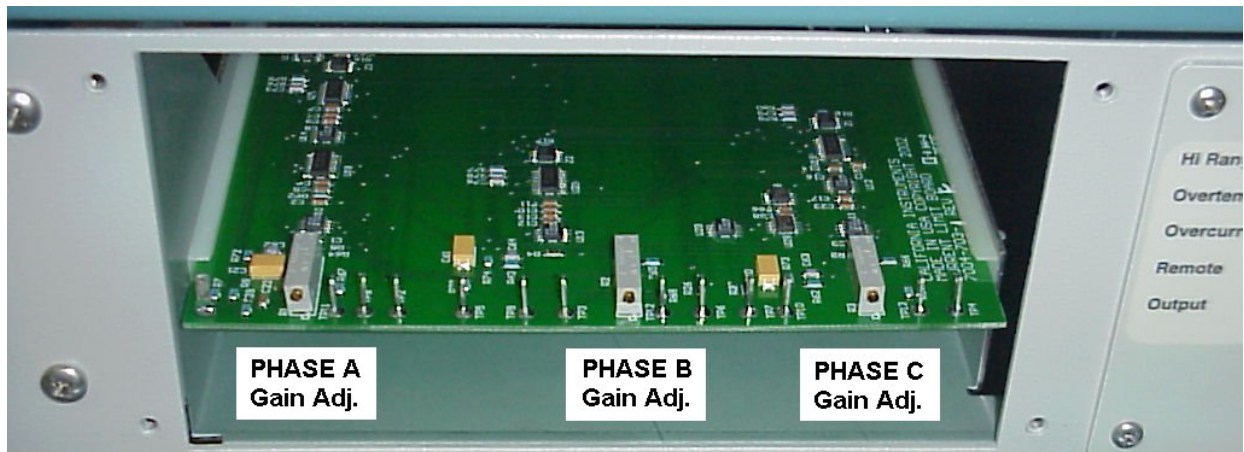

Figure 6-3: Location of Gain pot adjustments and TP1 through TP4
2. Remove the four screws that hold the current limit board access panel to the front panel and remove the access panel. This will provide access to the Current Limit board assembly (P/N 7004-703-1). Refer to Figure 6-3.